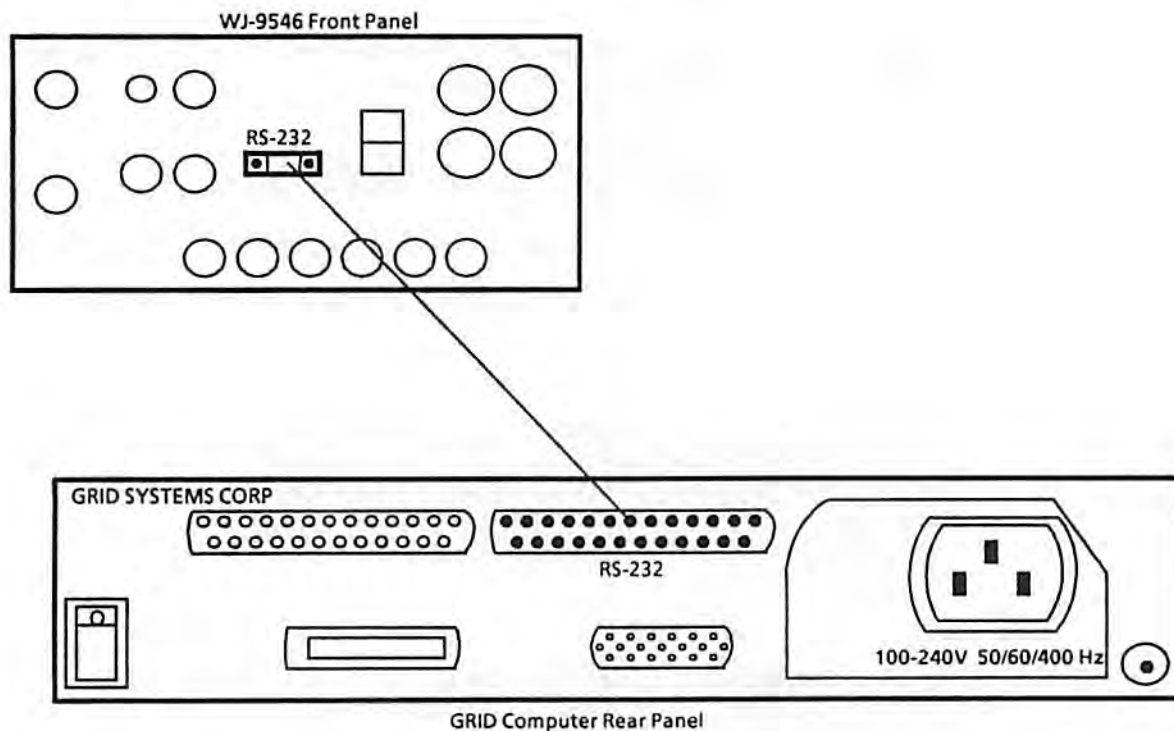

Figure C-1. Connecting the GRID Computer to the WJ-9546
2. Connect the 9-pin D-type connector of the Controller Cable Assembly (WJ P/N 382636-1) to the WJ-9546 at the front panel RS-232 connector (J4). See Figure C-1. Hand tighten the connector retaining screws.